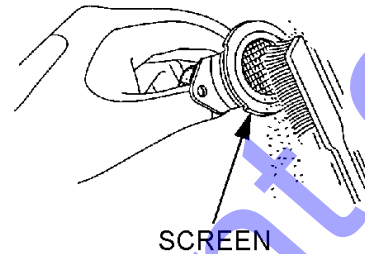

Figure 21. Cleaning The Spark Arrester
4. Carefully remove carbon deposits from the spark arrester screen (Figure 21) with a wire brush.